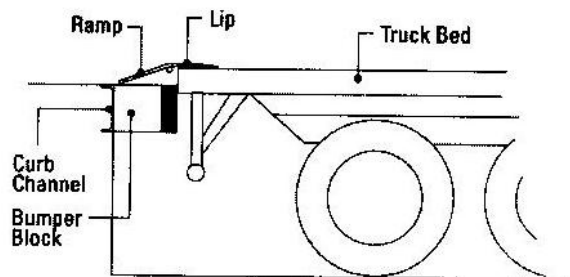

Fig. 29
- ? An edge-of-dock type, installed on the curb of the loading platform (Fig. 29)